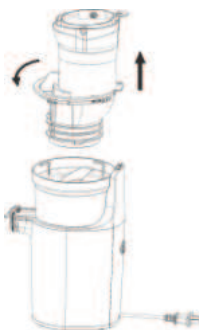

Fig 7
2. Remove the Chute. Turn the chute anti-clockwise until the ▲ aligns with the "☐" sign. (Fig7)